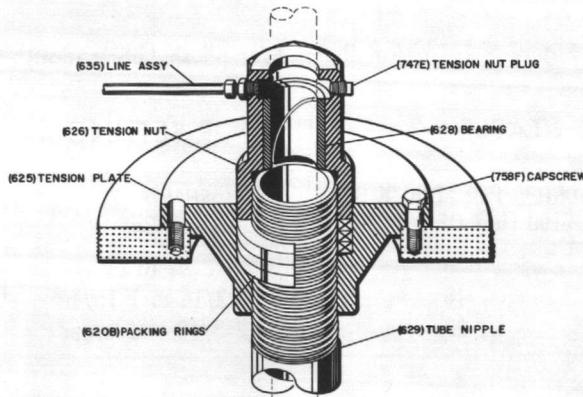

Figure 9-1 Tension Plate Assy (Drip Feed Lubrication)
A. If the stuffing box (SEE FIGURE 8-1) or oil tube tension nut (SEE FIGURE 9-1), is assembled to the head, remove these components at this time.
A. Lubricate tube threads and underside of tension plate flange with thread compound. Thread the tension plate (625) onto the enclosing tube nipple (629) manually until its shoulder rests on the discharge head. (SEE FIGURE 9-1).